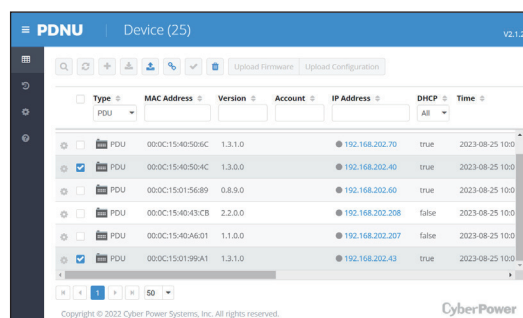

Figure 1
3. The main window of the Power Device Network Utility 2 program is shown in Figure 1. The configuration tool will display all CyberPower Remote Management devices present on the local network subnet. The "Scan" button is used to search the local network subnet again.